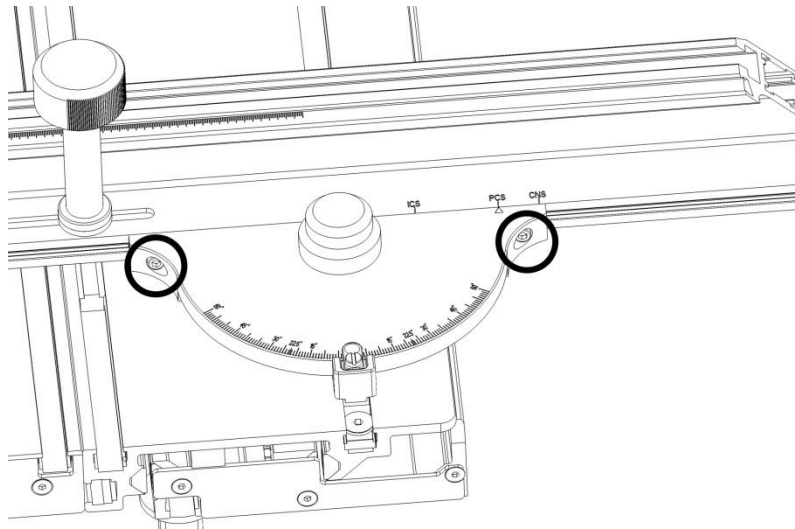

Fig. 13
16. Use a 5mm wrench to slightly loosen the miter gauge from the crosscut fence as shown in **Fig. 13**. **Do not loosen the miter gauge screws more than 1 ½ full turn.** If necessary, slide the fence left or right to align the arrow on the miter gauge with the indicator on the fence for your saw type (ICS/PCS/CNS). Retighten the screws, but not the lock knob.